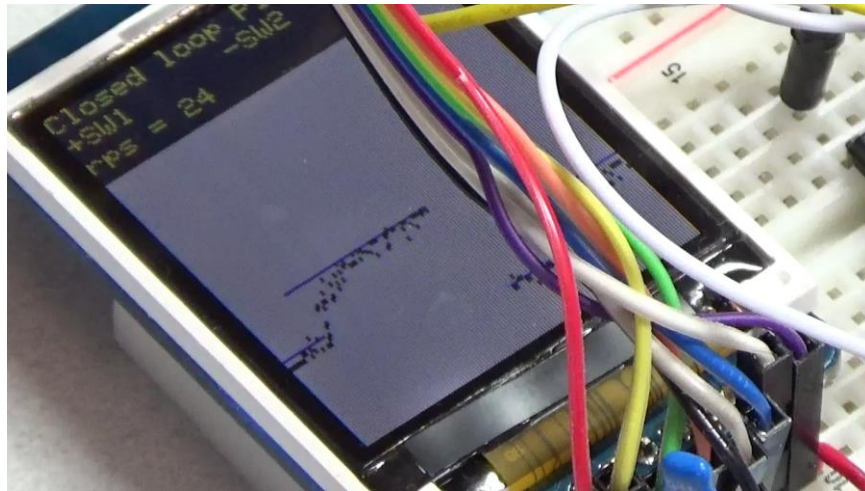
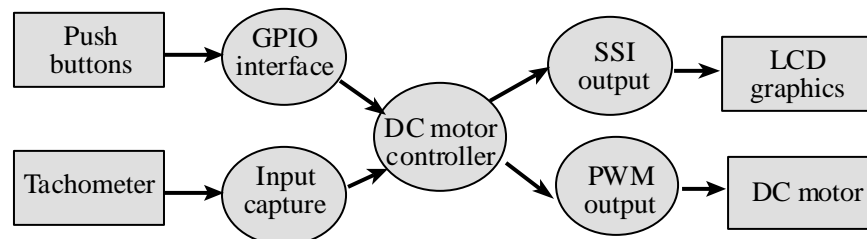

Figure 10.4. Measured and desired speeds are plotted versus time as the set point is increased from 20 to 25 rps.
Figure 10.5. Data flows from the tachometer and from the switches to the DC motor and to the LCD.
Both the desired and actual speeds should be plotted on the color LCD as a function of time similar to Figure 10.4 *(note to students: feel free to specify exactly how the data is displayed. For example, you could but do not have to add numerical outputs).*
2) Build the hardware interface to the motor, and the interface from the tachometer, but do not connect it yet to the microcontroller, as shown in Figure 10.5. Use a switch as inputs for the motor interface. Connect the tachometer output to a scope. When the switch is pressed the motor should spin and when the switch is not pressed the motor should stop. Measure the base-emitter current, and the collector-emitter current while the motor is spinning. Compare the measured values with theoretical design equations from the book (are the currents more or less than you expected?) Using a scope, verify the tachometer interface generates a digital (0V and 3.3V) signal that could be safely connected to a microcontroller input. The very fast turn-off times of the digital transistors can easily produce 100 to 200 volts of back EMF, so please test the hardware before connecting it to the microcontroller. Make sure your TA checks your hardware diagram before connecting it to the microcontroller.
4) Implement and debug the motor controller. Document clearly the operation of the routines. Interrupting input capture will measure the period of the tachometer and calculate motor speed. Consider calculating speed as a decimal fixed point number in 0.1 or 0.01 rps. The periodic interrupt-driven background thread will execute the digital controller, while the foreground thread initializes the system then periodically checks for switch input. Figure 10.5 shows the data flow graph of the DC motor controller. An integral controller is pretty stable. If the speed oscillates wildly (all stop- full speed) then decrease the controller constant. If it is VERY slow to response, increase the constant. Measure the maximum time to execute each of your ISRs. What is the average controller error (difference between desired and actual speed)? What is the approximate time it takes the speed to stabilize after the set point is increased from 20 to 25 rps? You do not need to tweak it to minimize error or response time. Your system performance should be similar to Figure 10.4 and the YouTube video, <http://youtu.be/ug-ZIOSbb4M>.